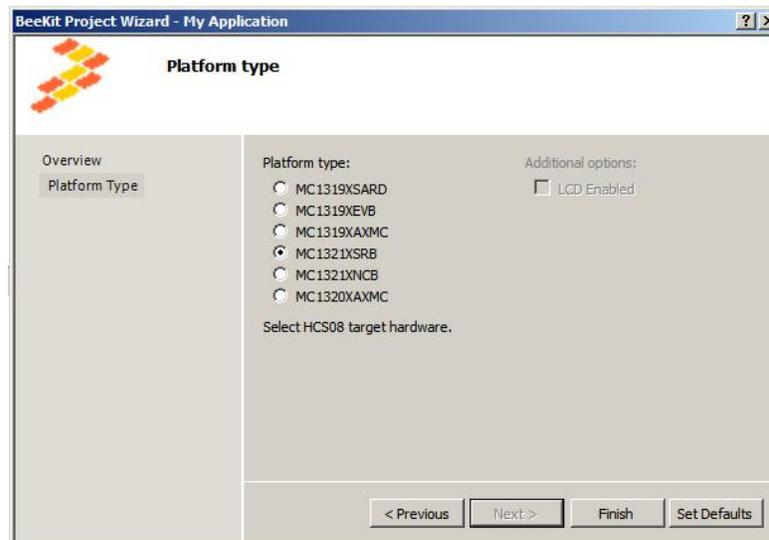

Figure 4. BeeKit Project Wizard Dialog Box
8. Click the OK button and the BeeKit Project Wizard window appears as shown in Figure 4.